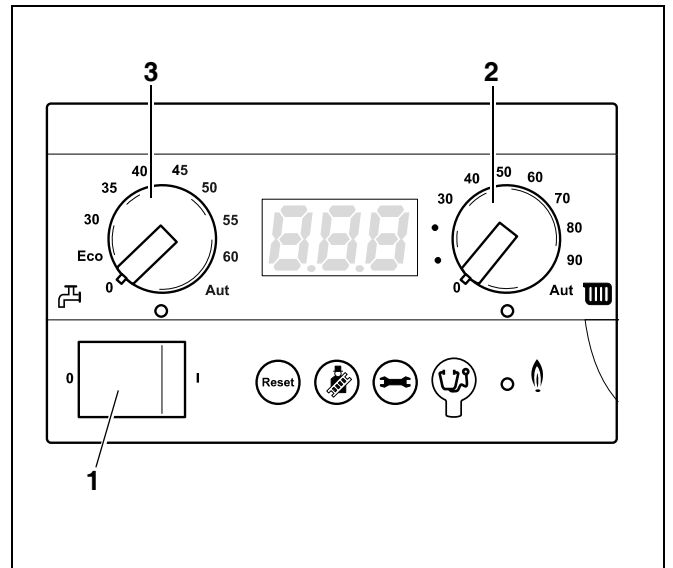

fig. 16 BC10 basic controller
- Turn both dials on the BC10 basic controller (fig. 16, **items 2 and 3**) to their required positions (→ section 5.2.1 and 5.2.2, from page 15).
- Switch on the mains switch (fig. 16, **item 1**) on the BC10 (position "1").
- Set the dial for the maximum CH (boiler) flow temperature (fig. 16, **item 2**) to set the required temperature according to table 3.